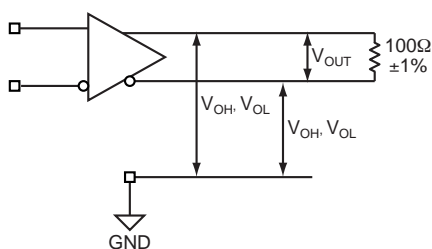

Figure 1a. LVDS Differential Measurement
11. Measured as per Figure 1a,  $100\Omega$  across Q and /Q outputs.